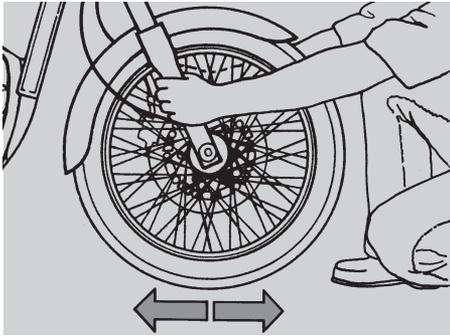

Fig. 41
CHECKING THE STEERING (Fig. 41 ÷ 43)
- ◆ Shake the fork in the driving direction (Fig. 41).